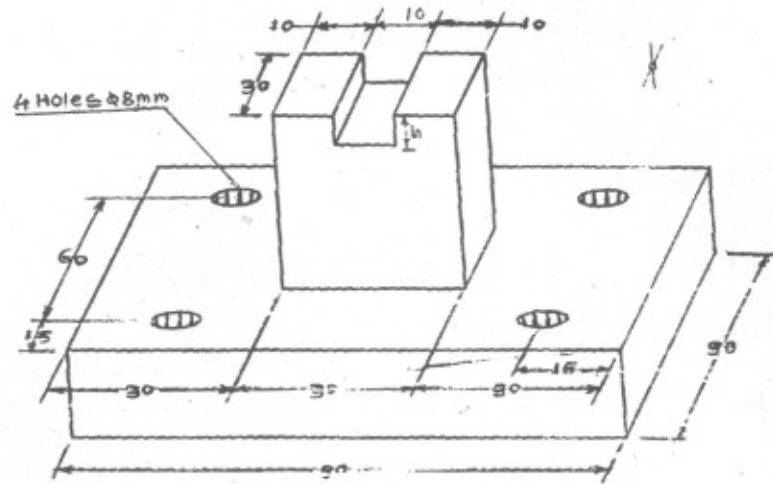

Fig. 1
- (b) Draw minimum two views of the working drawing of drilling jig for drilling 4 holes of diameter 8 mm for component shown in Fig. 1 and also show the important elements like locator, bush jig plate, clamps. [10]
30 mm in length for component shown in Fig 1 and also show that important elements like locater, setting block, clamps.